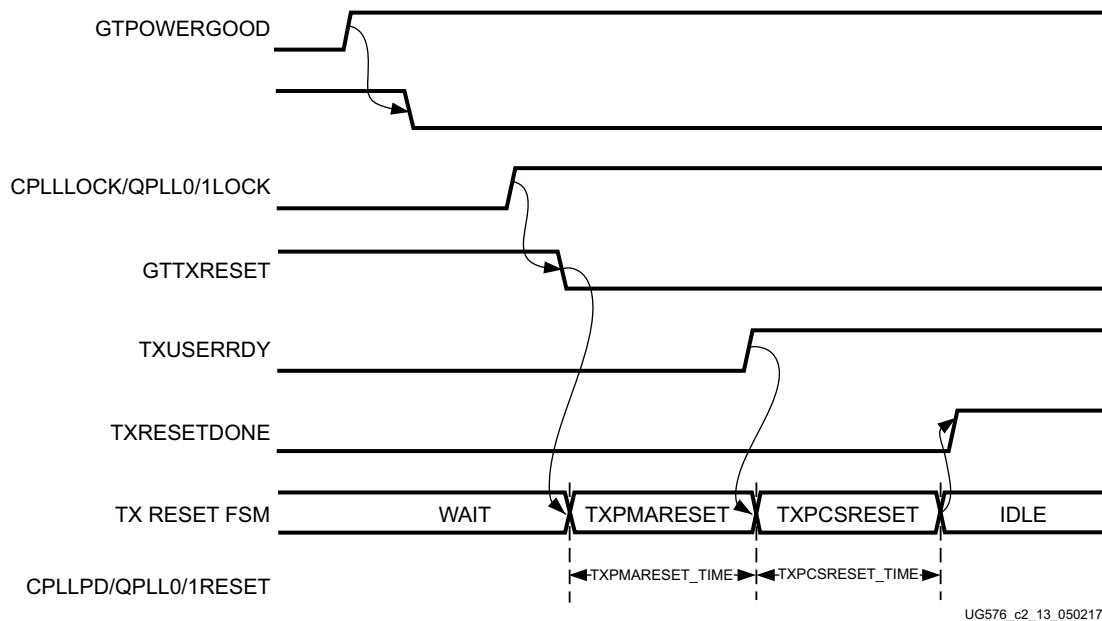

Figure 2-20: GTH Transmitter Initialization after Configuration
3. Assert QPLLRESET, CPLLPD, and GTTXRESET following the reset sequence described in Figure 2-20.
RECOMMENDED: Use the associated PLLLOCK from either CPLL or QPLL to release GTTXRESET from High to Low as shown in Figure 2-20. The TX reset state machine waits when GTTXRESET is detected High and starts the reset sequence until GTTXRESET is released Low.